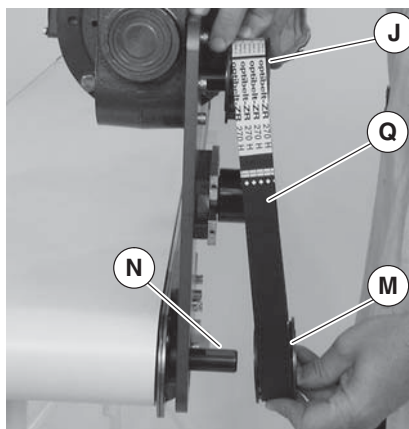

Figure 7
- Install key (Figure 7, item N).